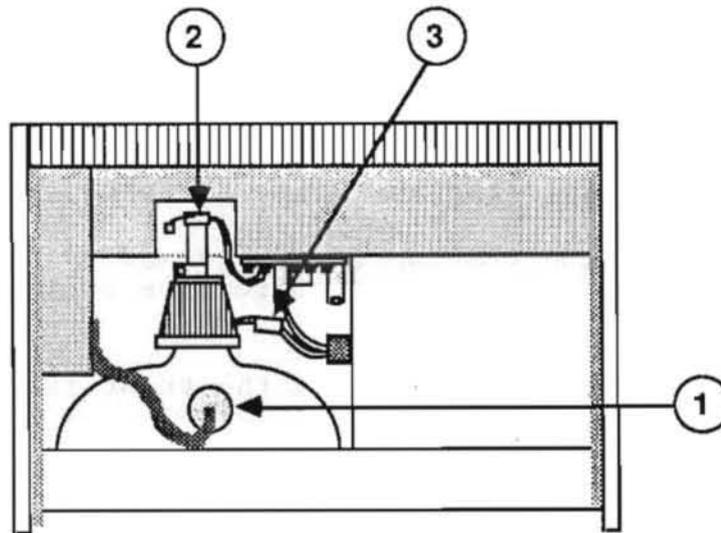

FIGURE 5C
**WARNING:** In the following steps, avoid touching the red-painted anode area of the CRT (Figure 5C, #1).
2. Reconnect the ground wire (extending from the round yoke connector) to the contact on the floor of the CRT cup. Replace the CRT cup (Figure 5C, #2).
Connect the yellow and green yoke connector to the connector coming from the screen kit transformer. (See Figure 5C, #3.) Then connect the blue and red yoke connector to the socket at the right side of the video board.